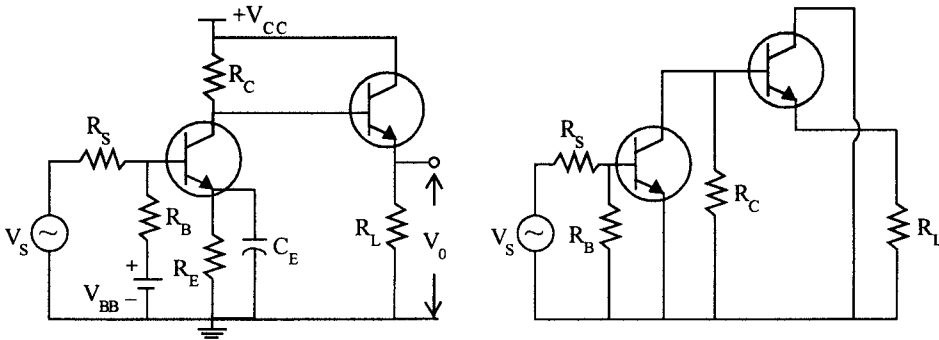

Fig. 2.36 CE, CC Amplifiers
This is another type of two-stage BJT amplifier. The first stage in Common Emitter (CE) configuration provides voltage and current gains. The second stage in Common-Collector (CC) configuration provides impedance matching. This circuit is used in audio frequency amplifiers. The circuit is shown in Fig. 2.36.